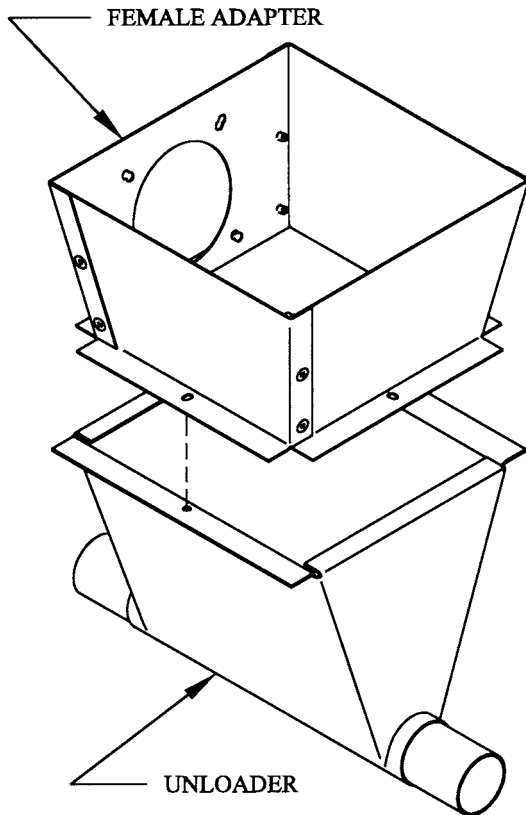

FIG. 14
STEP 11. Attach the female adapter to the unloader. See Fig. 14. Either use hardware supplied with unloader (cotter pins) or 1/4-20 screws and nuts from the rooster scale hardware bag.